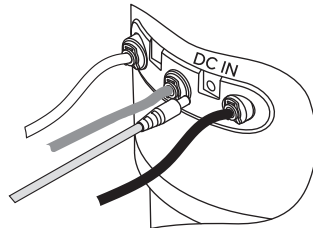

Fig. 11
- Insert the plug of the power supply into the outlet, and the plug from the power supply into the socket in your RO unit (Fig. 11).